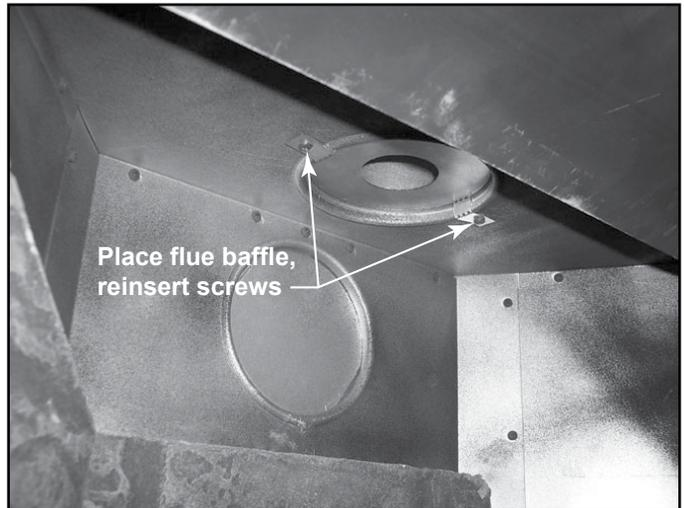

Figure 4.20 31-60 Foot Vertical Run
- The flue baffle will be turned to install inside the flue for vertical vent runs of 31-60 ft. See Figure 4.20.